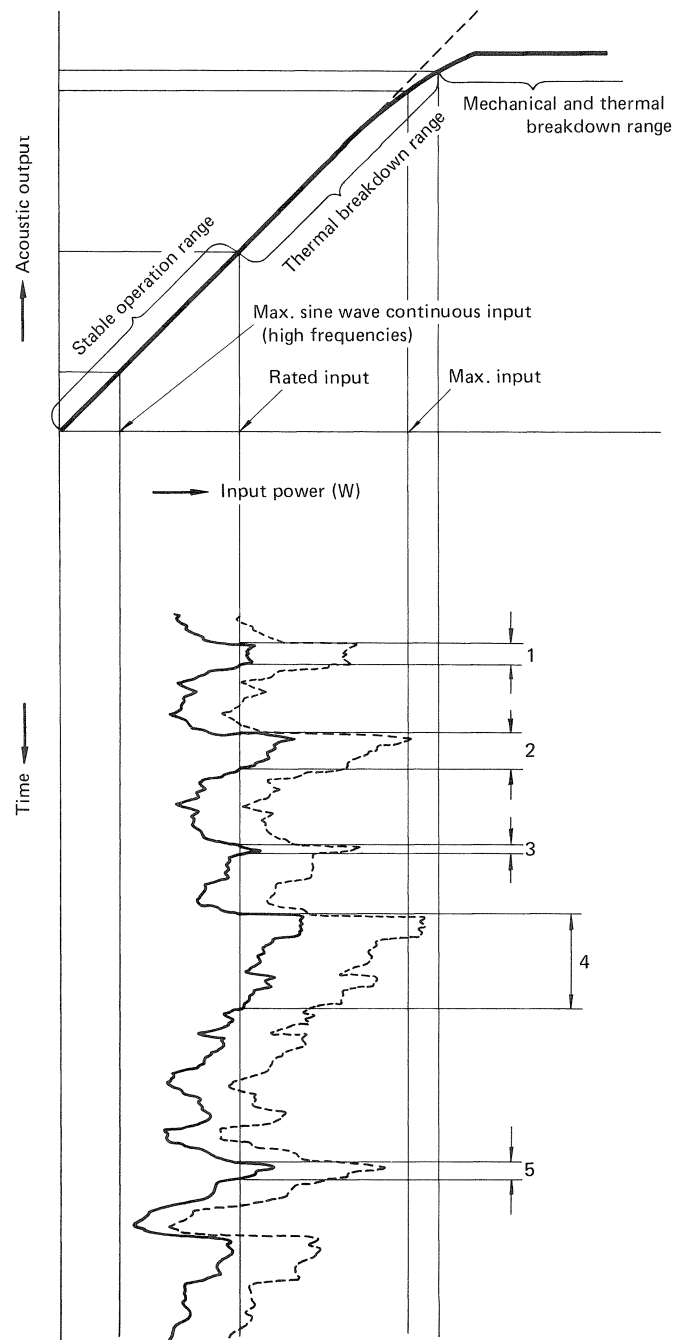

Fig. 1 Withstanding input power characteristic vs. input power of a speaker system
To answer this question, let's start by looking at Fig. 1 which shows the relationship between the maximum input power of a speaker system and the input power from an amplifier. It is important to take note of the fact that there are two types of speaker power ratings: the 'rated input power' and 'maximum input power.' At the moment only 'maximum input power' is stated in catalogs.
The 'rated input power' is the input, measured in watts, which a speaker can safely accommodate on a continuous basis without any voice coil damage (see Fig. 1 (1), (2), (3), (5)). Even if the peak input power momentarily exceeds the speaker's 'rated input' the voice coils are safe. But it cannot be guaranteed when the larger input power is continuously supplied to the speaker for a long period of time. (Fig. 1, (4))
So what happens to the speaker under the conditions in Mr. McBright's question? The solid line in Fig. 1 shows an input close to the allowable maximum input power of the speaker. When the volume is turned up, the output power looks like the broken line in Fig. 1. (In this example the output of the amplifier exceeds the 'rated power' of the speaker by 1.5x) It's obvious that the average power input exceeds the 'rated power' input. The degree of excess depends on the program source. Rock music, especially when played at parties is often very loud with distortion not being a primary concern. In such a case,